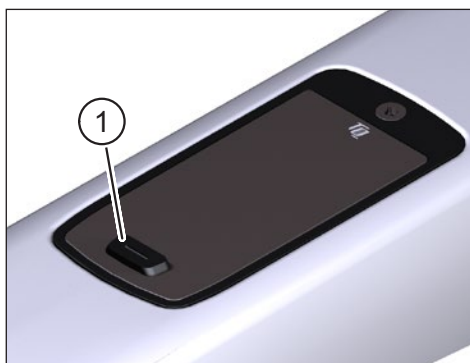
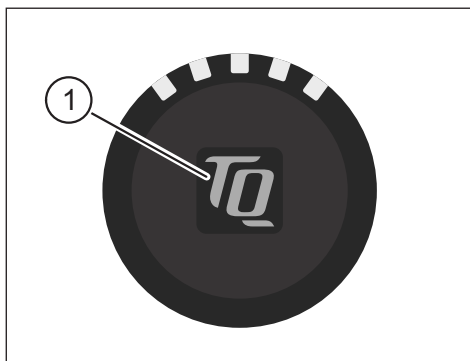

Fig. 1: Display
Fig. 2: Bar End Display
- ▶ Switch on the Drive Unit by **shortly** pressing the button on the Center Display (pos. 1 in Fig. 1) or Bar End Display (pos. 1 in Fig. 2.).
- ▶ Switch off the Drive Unit by **long** pressing the button on the Center Display (pos. 1 in Fig. 1) or Bar End Display (pos. 1 in Fig. 2.).